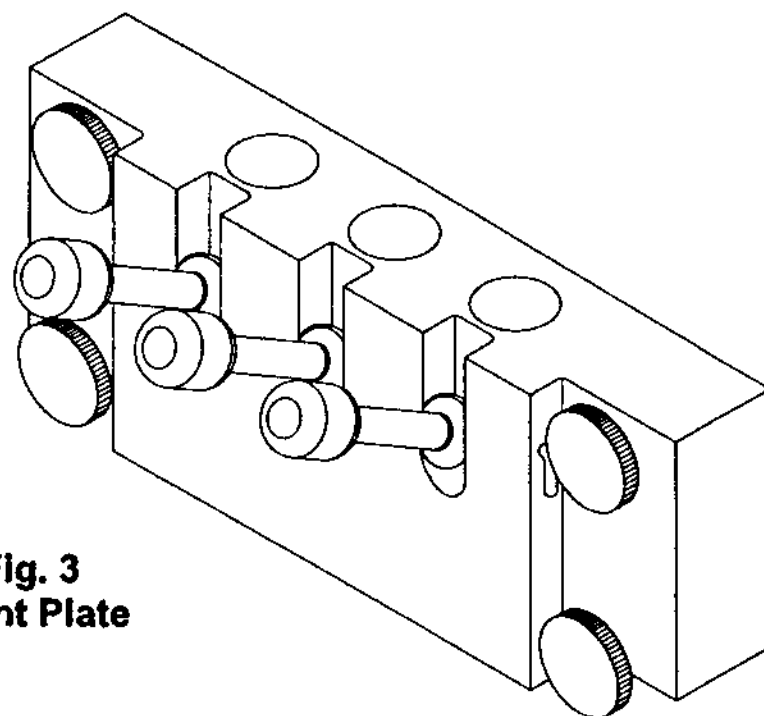
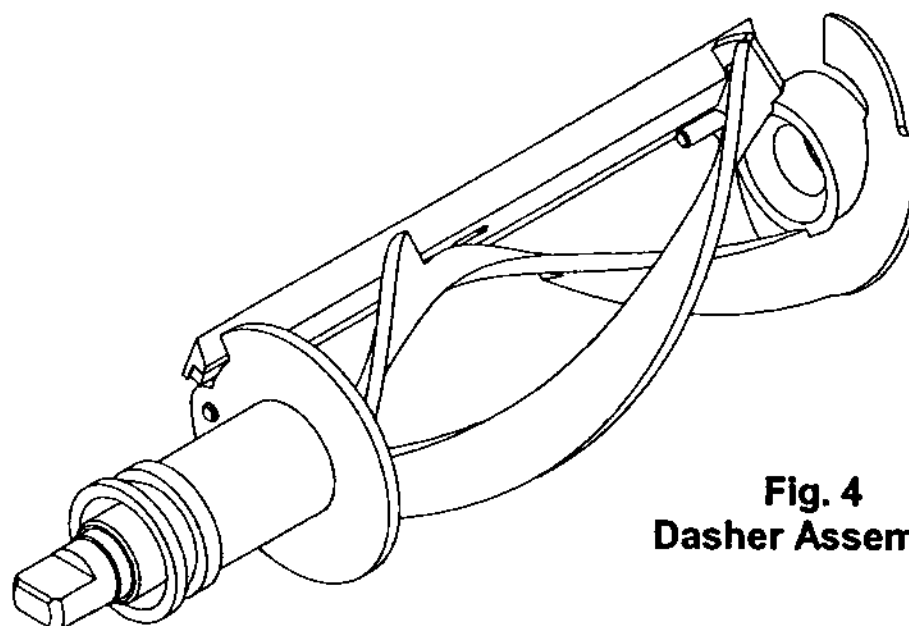

Fig. 3
Fig. 4
2. Remove the front plate (Fig. 3) and both dasher assemblies (Fig. 4) by turning the four black plastic knobs on the front plate in a counterclockwise direction. After removing the knobs, pull the front plate off the studs. Grasp the front of one of the dasher assemblies and remove it from the dispenser by pulling it out slowly and straight so the scraper blades are not damaged. Repeat for the other dasher assembly.
See Fig. 3, page 6.